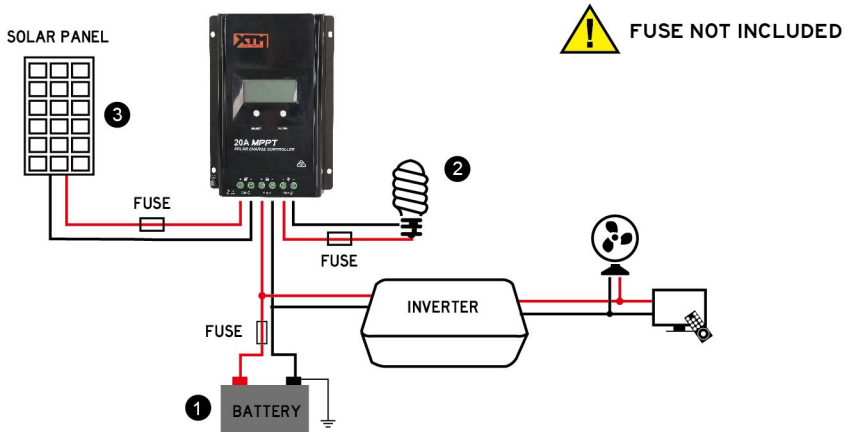

Figure 2-2 Wiring Diagram
Step 2: Connect the system in the order of battery  -- load  -- PV array  following Figure 2-2, "Schematic Wiring Diagram," and disconnect the system in the reverse order.